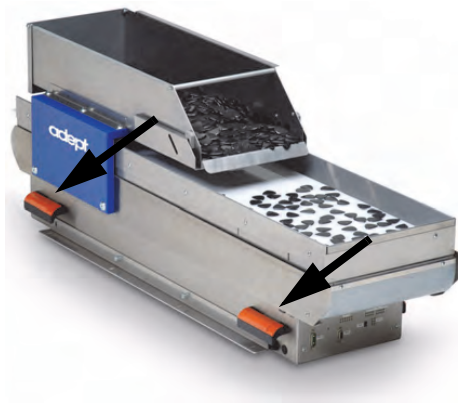

Figure 2-4. Handles for Lifting/Moving the Adept AnyFeeder
2. Lift the Adept AnyFeeder by the handles shown in Figure 2-4.